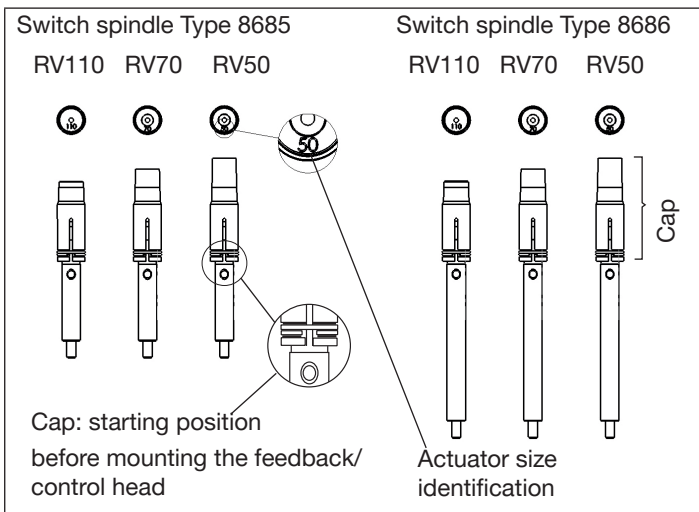

Fig. 5: Switch spindle identification
- ▶ Use only switch spindles that match the actuator size. The corresponding actuator size identification (RV50, RV70, RV110) for switch spindles are embossed on the front of the PVC cap (see “Fig. 5”).
→ Select the switch spindle that matches the actuator size (see “Fig. 5: Switch spindle identification”).
- The caps must be in the starting position. If not, move the caps to the starting position (see “Fig. 5”)